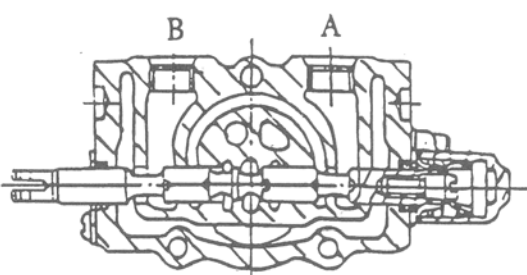

Fig 7.5 Pull Sliding Valve
(3) Pull sliding valve (see Fig 7.5)